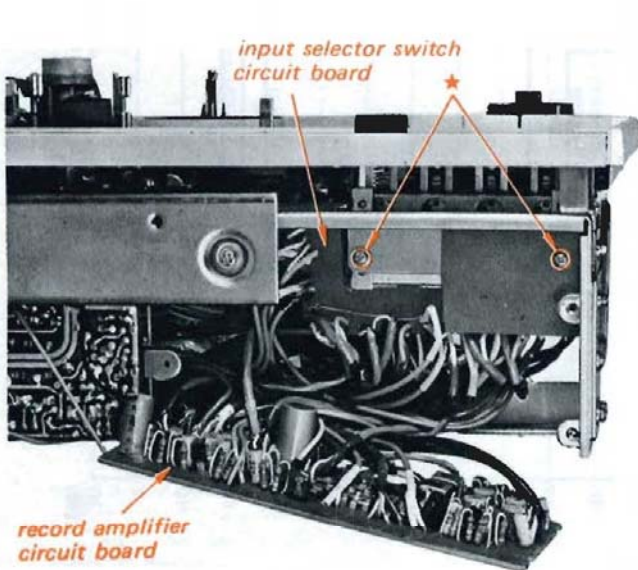

Fig. 8-11 Input selector switch circuit board removal
- (1) Unsolder the black lead, coming from the preamplifier & bias osc. circuit board on the conductor side of input selector switch circuit board.
- (2) Remove the record amplifier circuit board.
- (3) Remove the input selector switch circuit board by unscrewing two screws marked with ★ in Fig. 8-11, taking care not to cut the leads.